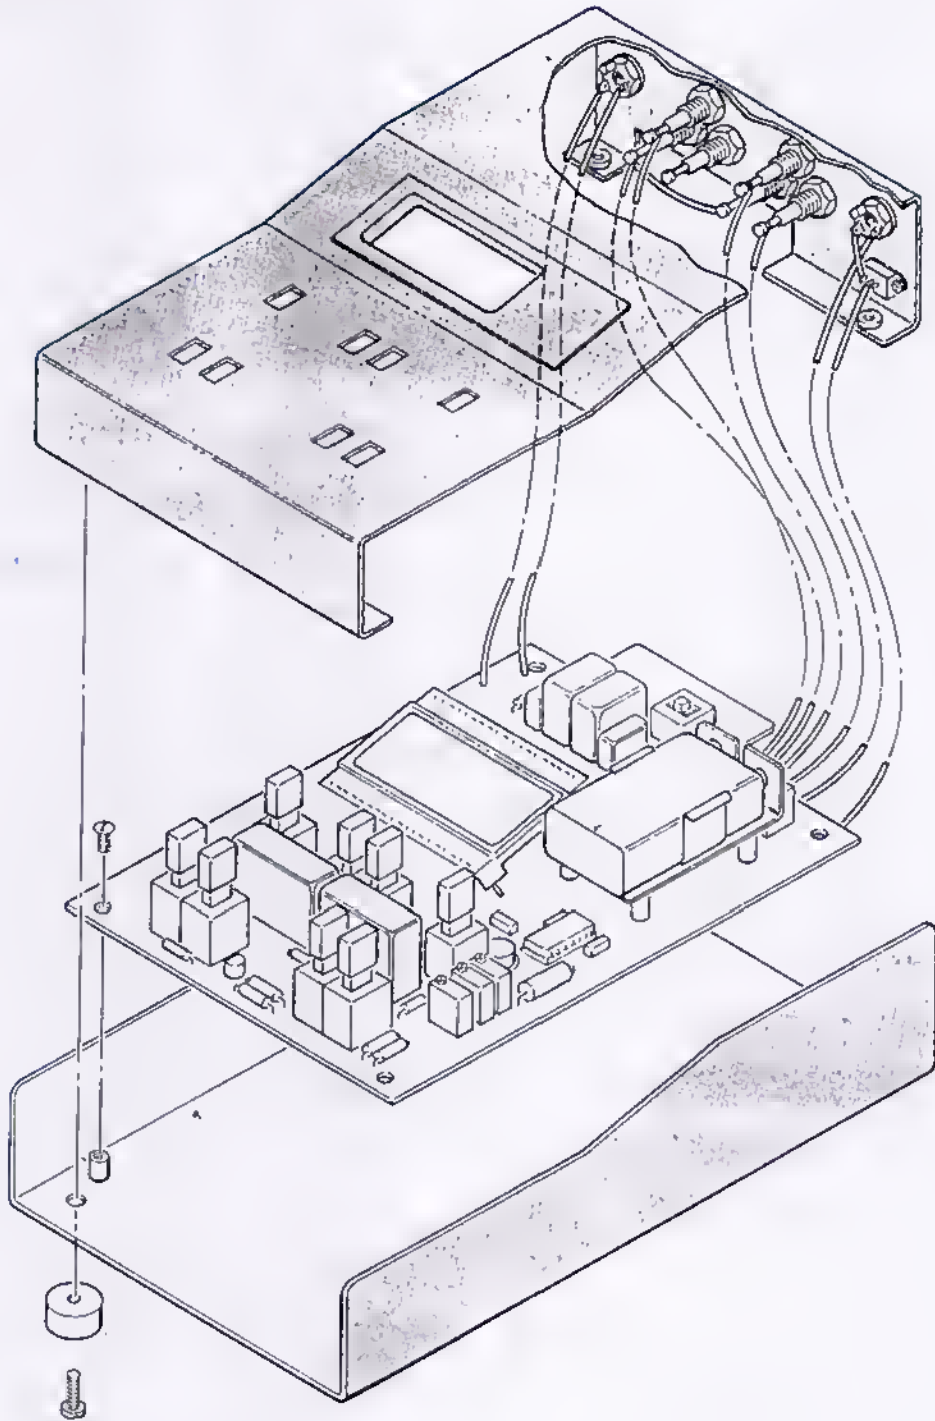

FIGURE 7-1. ASSEMBLY/DISASSEMBLY OF MODEL 44/88XL.
2. Turn the instrument topside up. Carefully lift off the top cover and swing back and behind the base. Figure 7-1 illustrates the basic assembly of the Model 44XL and 88XL.